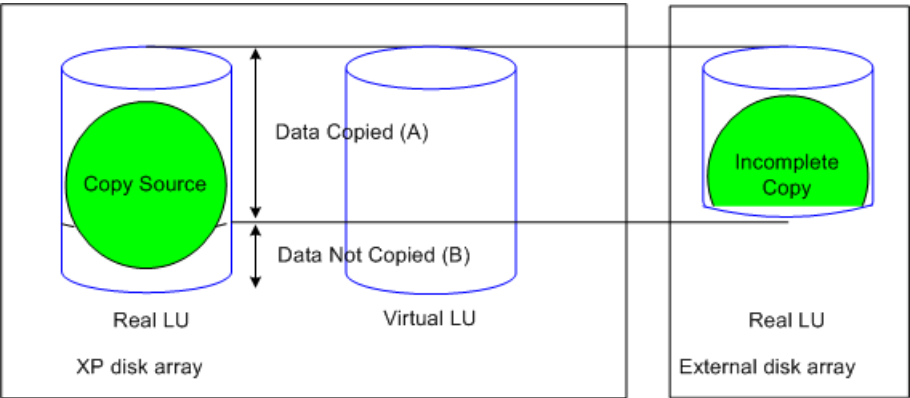

Figure 362: Example of an incomplete copy
Figure 362 shows an example where the copy source is not copied completely to the copy target LU. In this example, the data in the XP disk array is copied to the external disk array. In the external disk array, a real LU whose capacity is smaller than the copy source LU is selected. To copy all the source data ($A + B$) in the XP disk array, the target LU selected in the external disk array is too small, so some of the copy source data (B) is not copied. This means that the Flex Copy copy operation is unsuccessful.